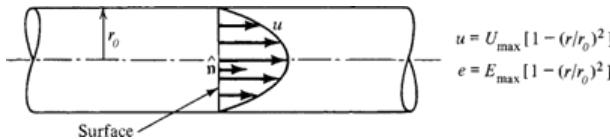

Figure P2.4
- 2.4** Evaluate the integral $\int \rho e (\mathbf{V} \cdot \hat{\mathbf{n}}) dA$ over the surface shown in Figure P2.4 for the velocity and energy distributions indicated. Assume that the density is constant.